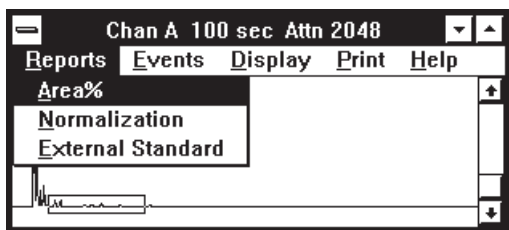

Figure 33 Reports menu
7. Open the External Standard reports for channels A and B by clicking on Reports, then on External Standard (See Figure 33). They should display the peak names in the order of elution time and have large amount values for all of the peaks listed in the reports. This is because the method is not yet calibrated (See Figure 34).